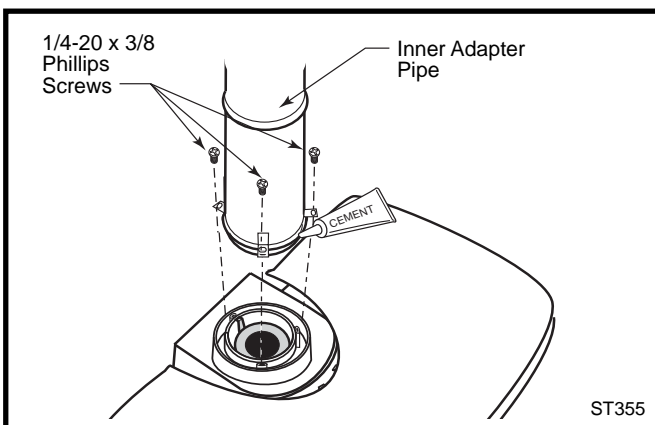

Fig. 26 Simpson Dura-Vent - install inner adapter pipe.
- Run a bead of sealant around the bottom end of the starter pipe and attach the assembly to the stove using three 1/4-20 x 3/8" Phillips screws provided in the parts bag. (Fig. 26)